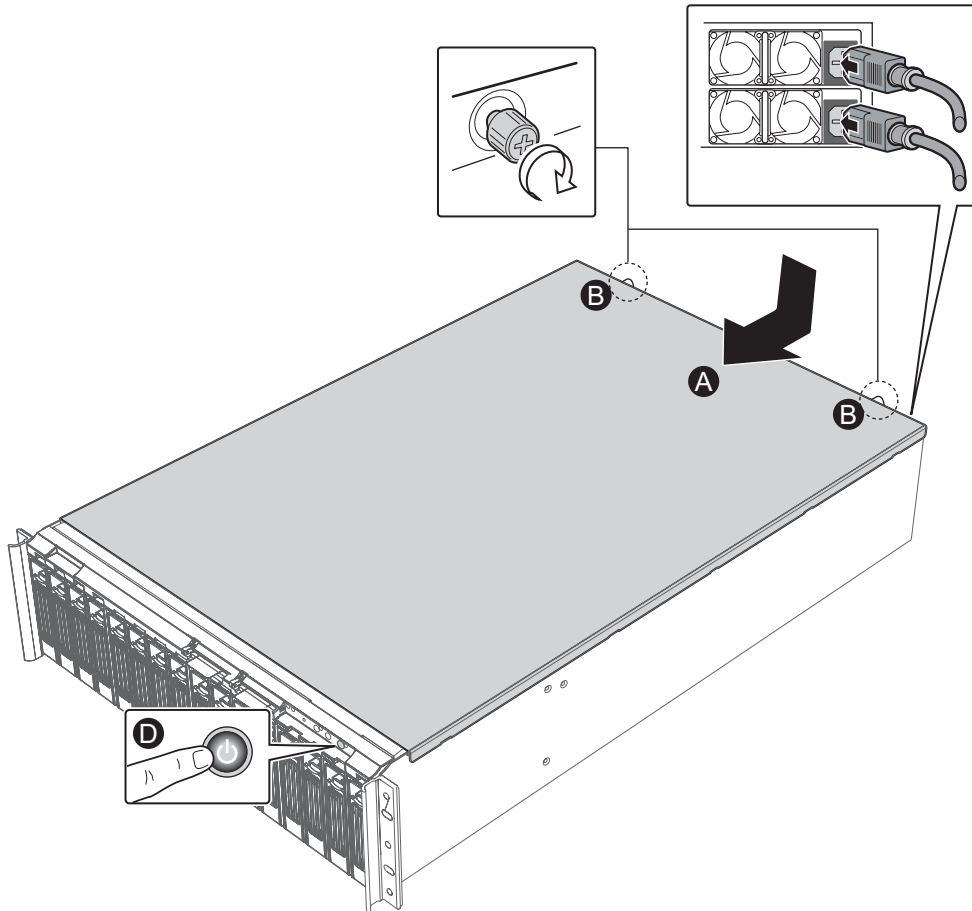

Figure 40. Re-attaching the Chassis Cover
- A. Facing the front of the system, insert the chassis cover into its slot. Push the top cover forward until it reaches the front of the system. See Figure 40.
- B. Tighten the two thumb screws on the back of the chassis cover. See Figure 40.
- C. Re-attach the AC power cables. See Figure 40.
- D. You can now power on the Intel® Storage System SSR316MJ2. See Figure 40.